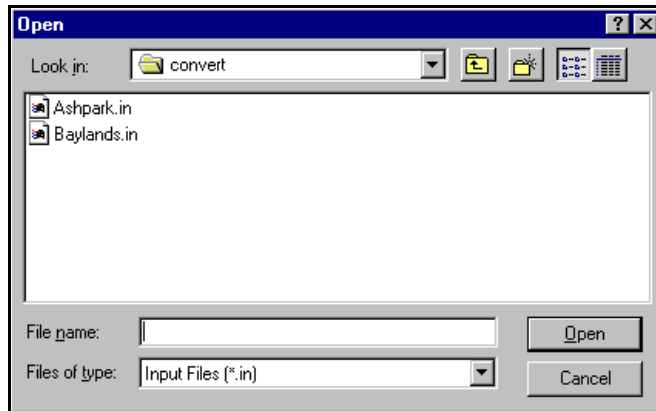

Figure 2.3. Open Dialog Box
- Click the Browse button. In the Open dialog box (Figure 2.3), navigate to and select the file you want to use as an input file, then click the Open button.The file name is listed in the Convert dialog box.